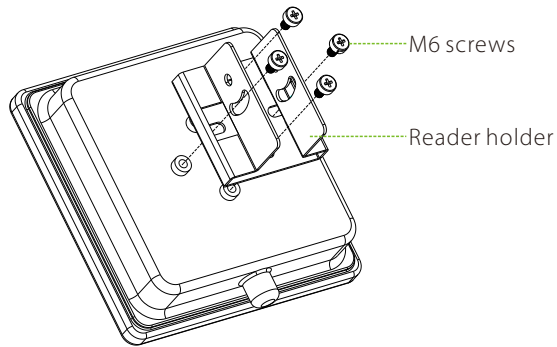

Figure 3
Step 4: Place the sponge mats on column 1, then fix the reader holder and the reader support with a collet and M6 screws as shown in figure 3, 4.